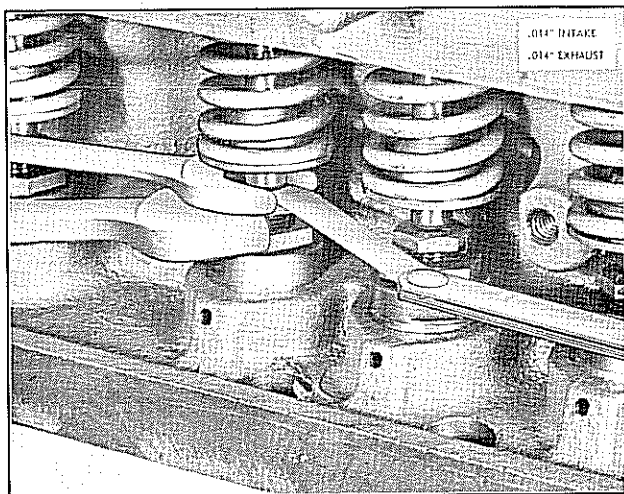

Figure 004a. Adjusting Valve Clearance
j. Check for proper 0.014 inch clearance by alternately passing a 0.013 inch and a 0.015 inch flat feeler gauge between head of adjusting screw and valve stem cap, see Figure 004a.